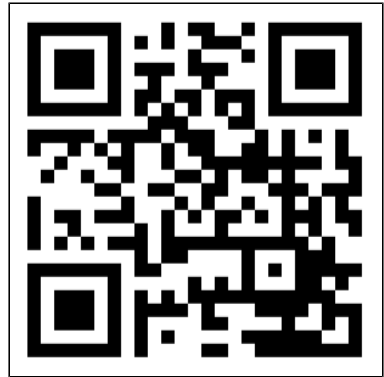

Figure 12.
1. Open the Eurom Smart App manual with the QR code (Figure 12) or go to www.eurom.nl/nl/manuals.